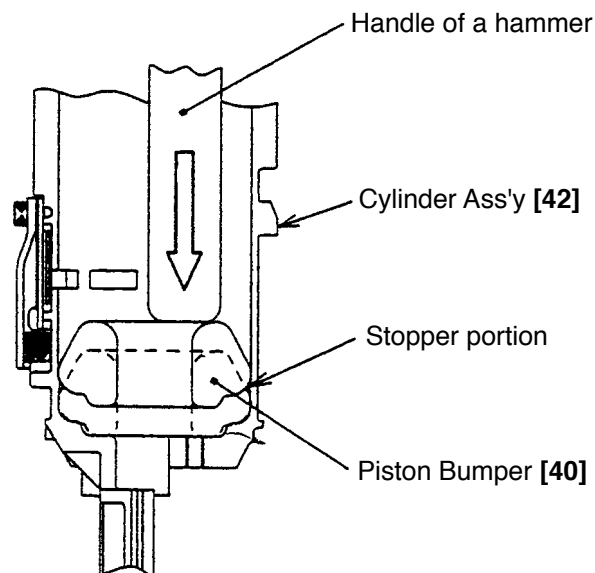

Fig. 37
- Drop the Piston Bumper [40] in the Cylinder Ass'y [42] facing its stepped side inward and push it in until it passes through the stopper portion by means of the handle of a hammer. You feel a click when the Piston Bumper [40] passes through the stopper portion (Fig. 37).